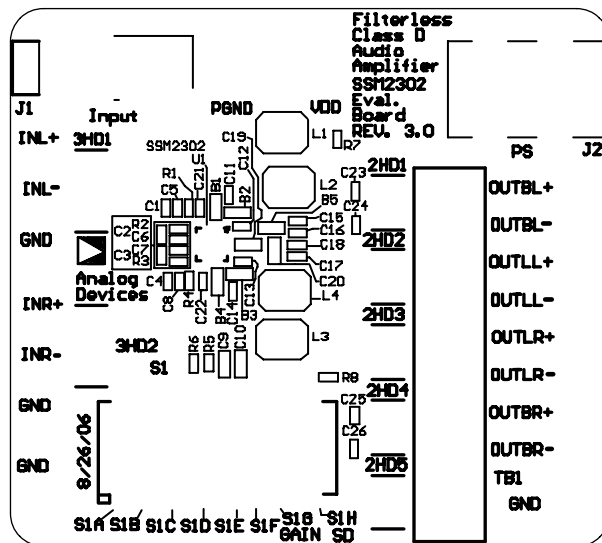
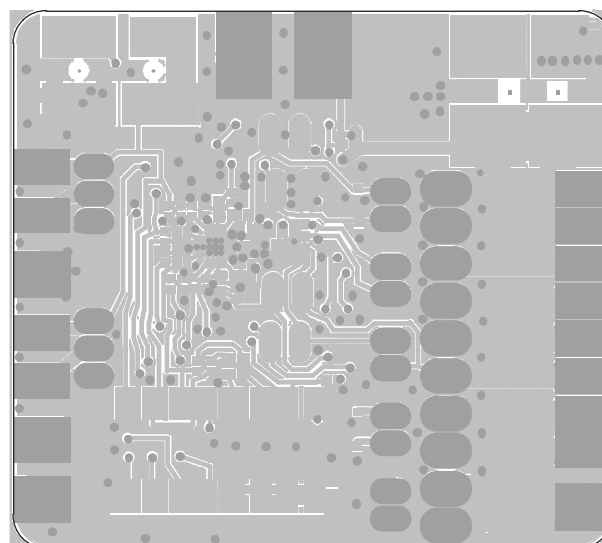
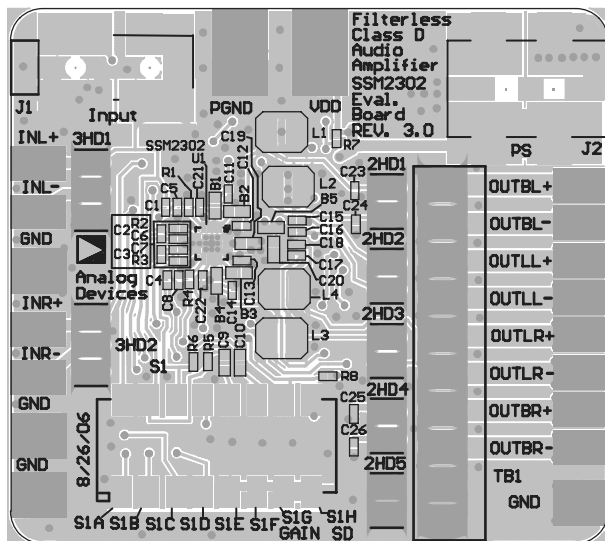

Figure 42. Top Silkscreen
Figure 43. Top Layers Without Top Screen Layer
Figure 41. Top Silkscreen Layer with Other Top Layers
The silkscreen layer of the evaluation board is shown in Figure 41 with other top layers, including top copper, top solder mask, and multilayer (vias).
Figure 42 shows the top silkscreen layer only. There is no component in the bottom side; therefore, there is no bottom silkscreen layer.
Figure 43 shows the top layers without the silkscreen layer.
All the output ports are located on the right side of the board and marked with the corresponding names. Please see the legend on the board in Figure 42 and the schematic in Figure 46.
1. Place nine vias onto the thermal pad of the amplifier. The outer diameter of the vias should be 0.5 mm and the inner diameter should be 0.33 mm. Use a PCB area of at least 2 cm × 2 cm or an equivalent area on the back side of the PCB layer as the heat sink (see Figure 41, Figure 42, and Figure 43). If there are internal layers available within the PCB, allocate an area as large as possible for the ground plane(s) and connect these vias to the plane(s).
8. Decouple the input port nodes and the digital pins, Pins 3, 4, 5, 8, 9, and 10, with small capacitors, such as 100 pF. These capacitors are not necessary, but can lower the EMI from these pins. The ground terminals of these capacitors should be connected to the chip ground as close as possible (see Figure 41, Figure 42, and Figure 43).
10. Connect the ground pins, Pins 6, 7, 13, and 16, to the thermal pad and place grounding vias as shown in Figure 41, Figure 42, and Figure 43.